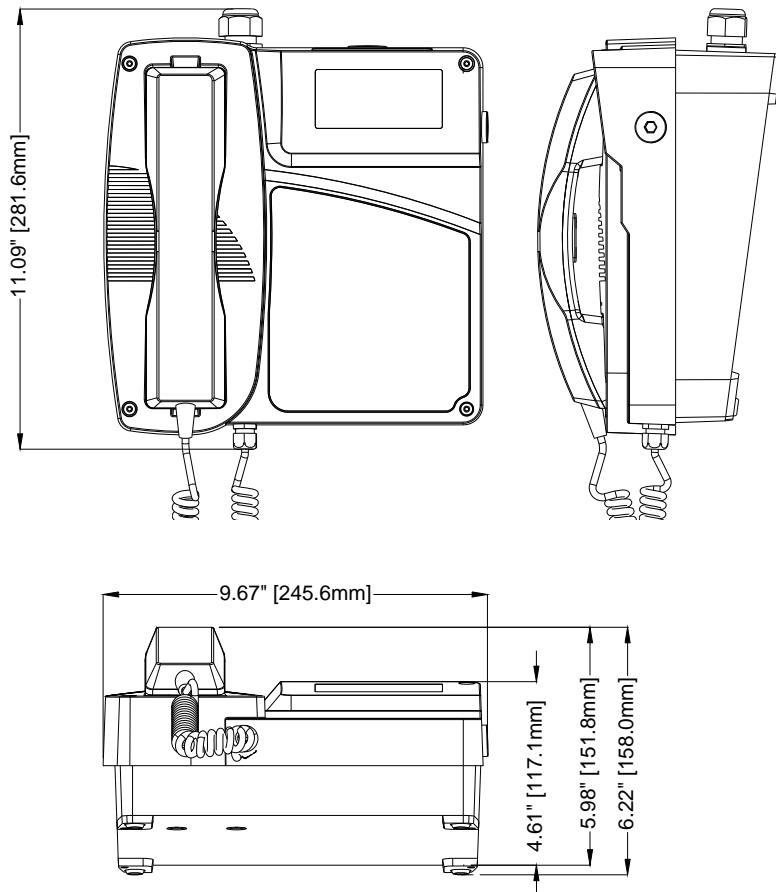

Figure 2 - Overall Dimensions
| Figure 2 - Overall Dimensions.....            | 4 |
**See:** *Figure 2 - Overall Dimensions.*